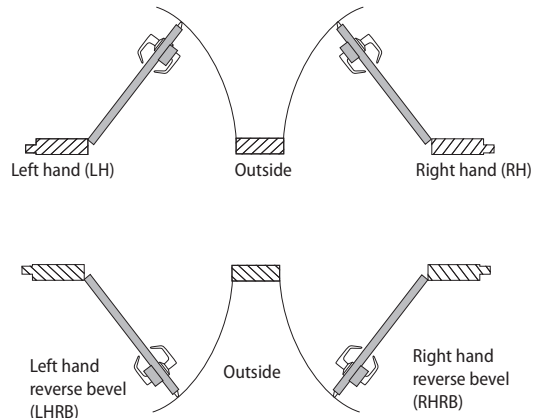

Figure 3 Door Handing Chart
- 3 See the *Holes by Function* table and Figure 3 to determine the holes to be drilled for the lock function.